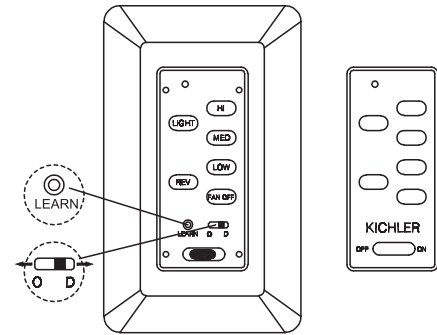

Fig. 21
Step 1. After installation is complete, press the “LEARN” button for 3 seconds within 30 seconds after AC power is turned on. Fan will turn on at medium speed and light (if installed) will turn on. This confirms that the “SMART SYNC” setting is active and ok. (Fig. 21)